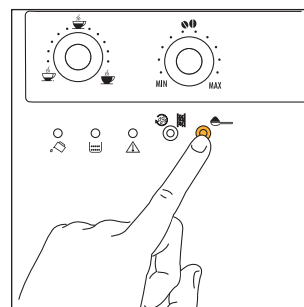

Fig. 18
1. Press the  button to select the ground coffee function (Fig. 18). The light inside the button switches on to indicate that the function has been selected and the coffee grinder has been disabled.